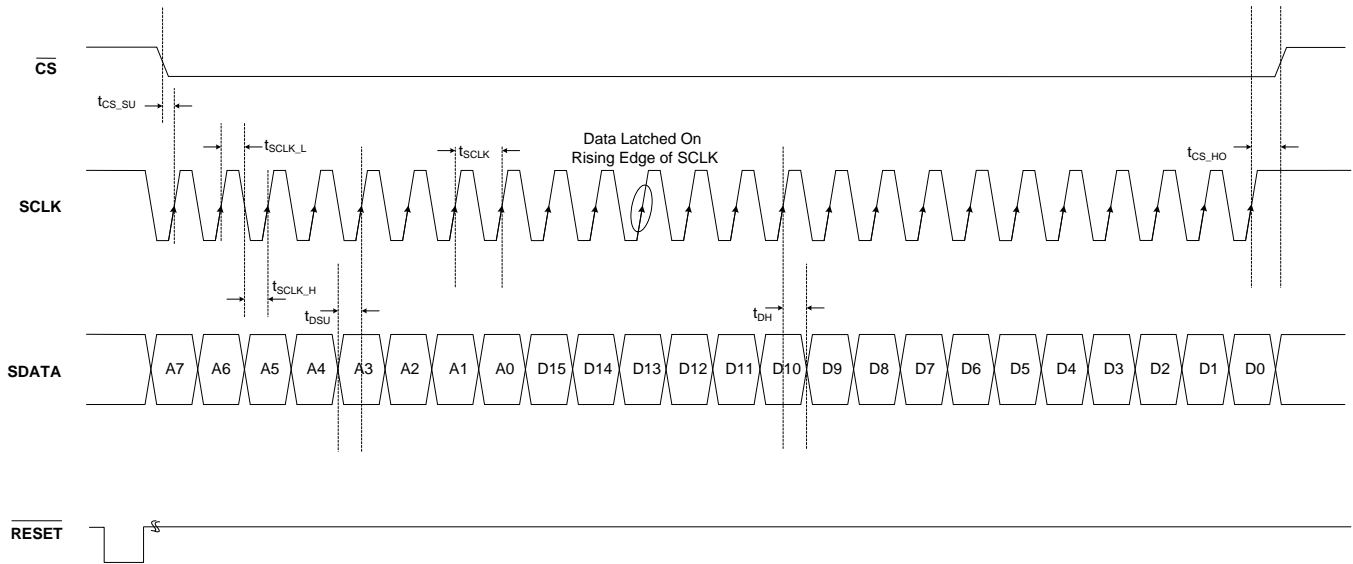
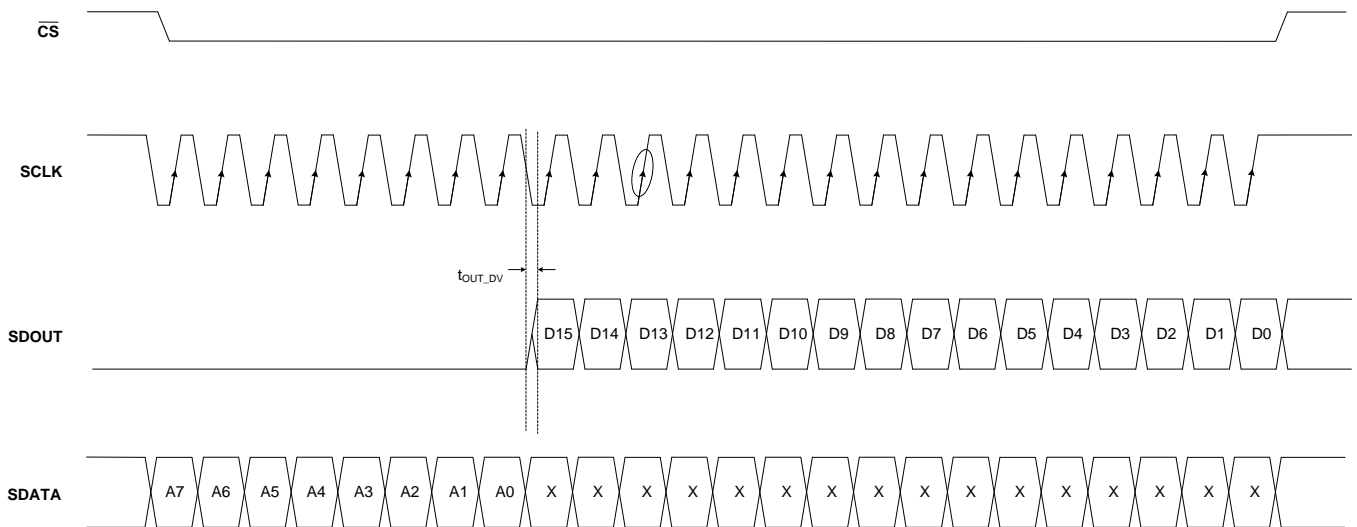

Figure 74. Serial Interface Write Timing Diagram
Figure 76. Serial Interface Read Timing Diagram
1. Either through a hardware reset by applying a low pulse on the \overline{RESET} pin (of widths greater than 50 ns), as shown in Figure 74; or
Table 7. Timing Characteristics for Figure 74 and Figure 76⁽¹⁾
(1) Typical values are at T_A = +25°C, minimum and maximum values are across the full temperature range of T_{MIN} = -40°C to T_{MAX} = +85°C, unless otherwise noted.
(2) See Figure 76
To exit serial readout mode, reset the EN_READOUT register bit to '0', which enables writes to all device registers. At this point, the SDOUT pin is in 3-state. A detailed timing diagram for the serial readout mode is shown in Figure 76.